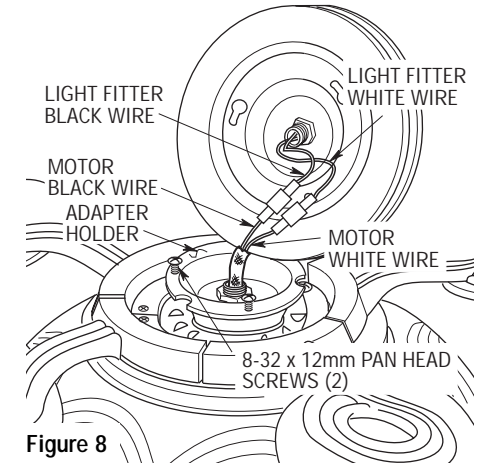

Figure 8
- 11. Partially install two 8-32 x 12mm pan head screws (supplied) in two threaded holes in the adapter holder (Figure 8).
- 12. Connect the white wire from the light fitter to the white wire from the motor (Figure 8). Connect the black wire from the light fitter to the black wire from the motor. Make sure both connectors are securely engaged.